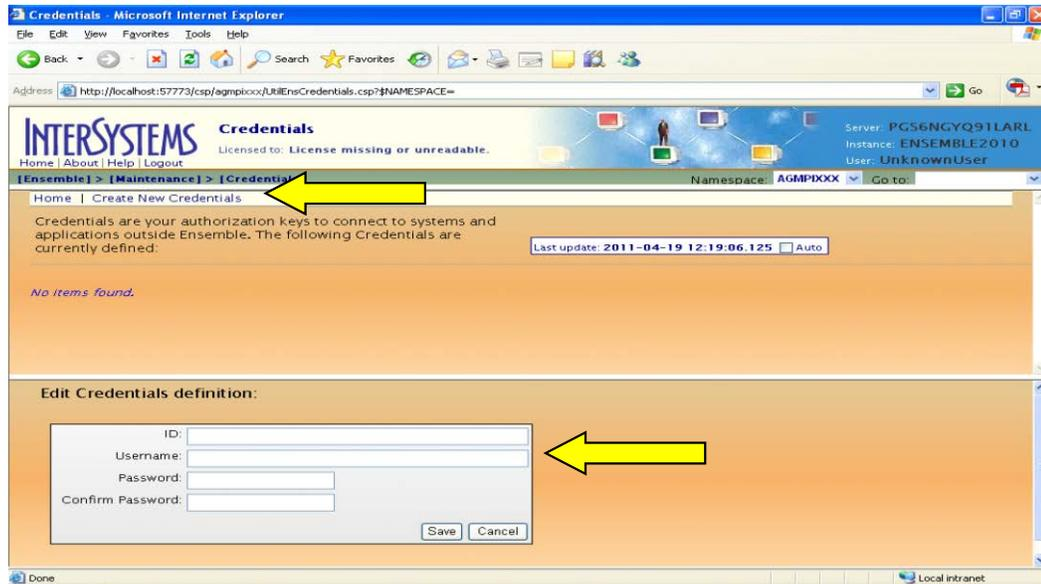

Figure 5-27: Clicking **Create New Credentials** on the **Credentials** page displays the **Edit Credentials definition** pane
3. To create a new credential, click **Create New Credentials** at the top of the pane to open the **Edit Credentials definition** pane, as shown in Figure 5-27 .